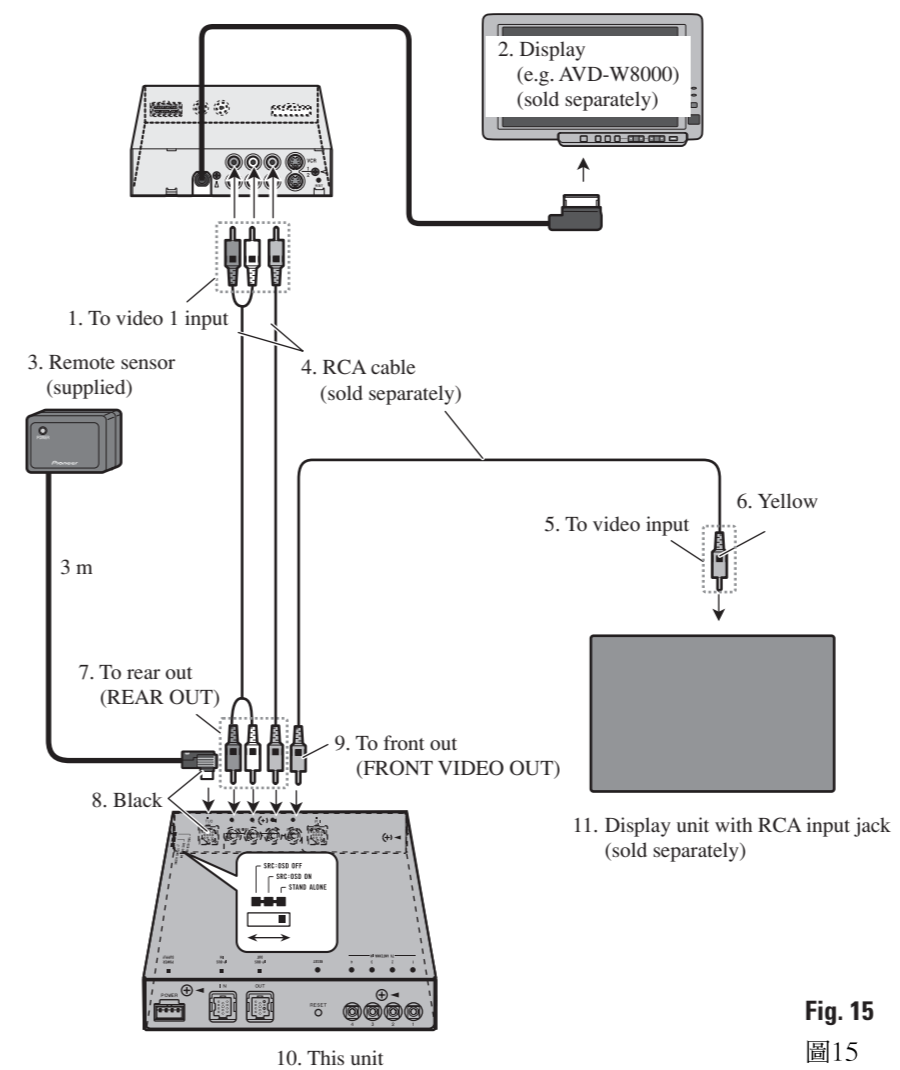

Fig. 15
■ **When using this unit as "STAND ALONE" mode (Fig. 15)**